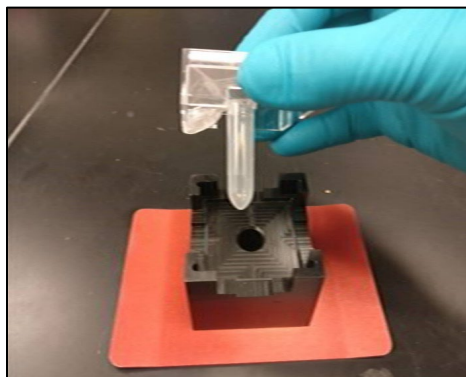

Figure 103. Removing the Collection Tube containing the eluate.
- Carefully remove the Collection Tube containing the extracted library (Figure 103, below).